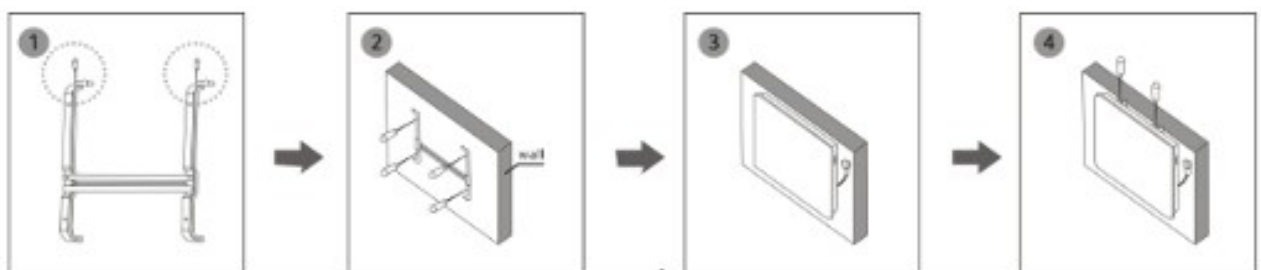

Fig. 2.
- In the case of mounting on the wall, see the diagram shown in Fig. 2. The set includes all the elements necessary for assembly.